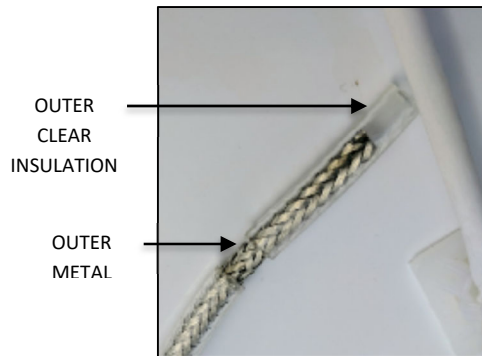
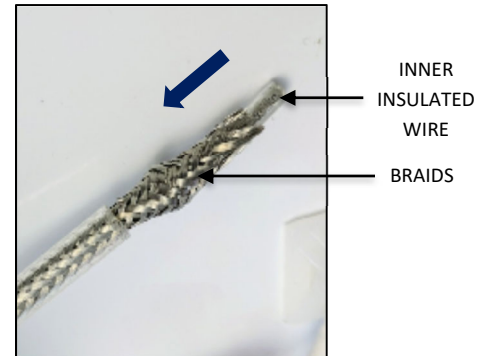

FIG. 14
FIG. 15
1. Strip off 1.00" of outer clear insulation exposing the outer metal braiding as shown in FIG. 14 below. **Be careful not to cut or damage the outer metal braiding.** Gently push braiding down to loosen the individual braids exposing the inner insulated wire as shown in FIG. 15 below.